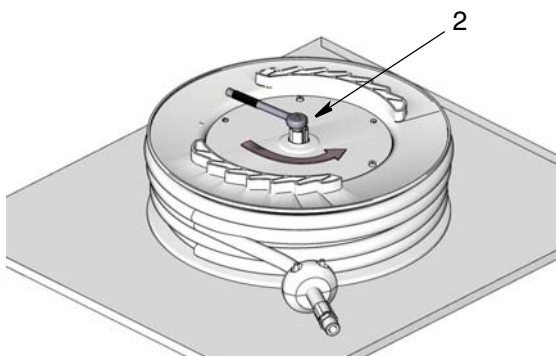

FIG. 15
15. Install the new swivel assembly in the spool (FIG. 15). Turn spool over to access cap (2). Hand tighten cap to hold swivel assembly in place.